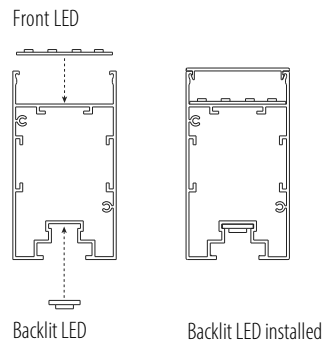

Figure 3a
- b. Peel back 0.5" of the adhesive tape's protective film on one end of LED and use firm pressure to adhere it to the desired surface, avoiding air bubbles. Continue peeling the film and adhering. (Figure 3a)